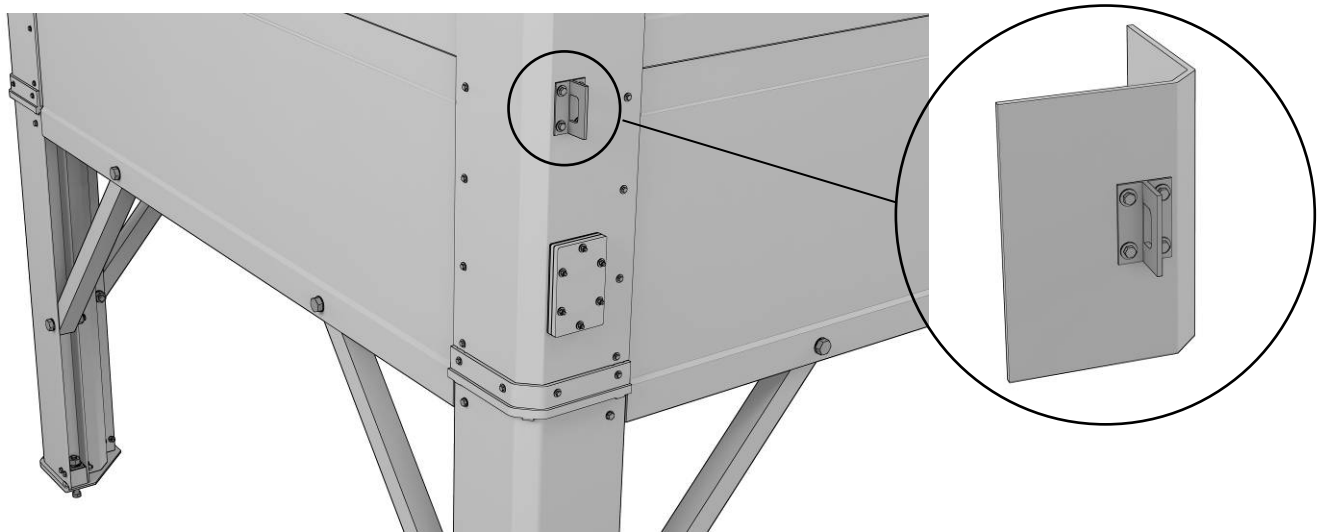
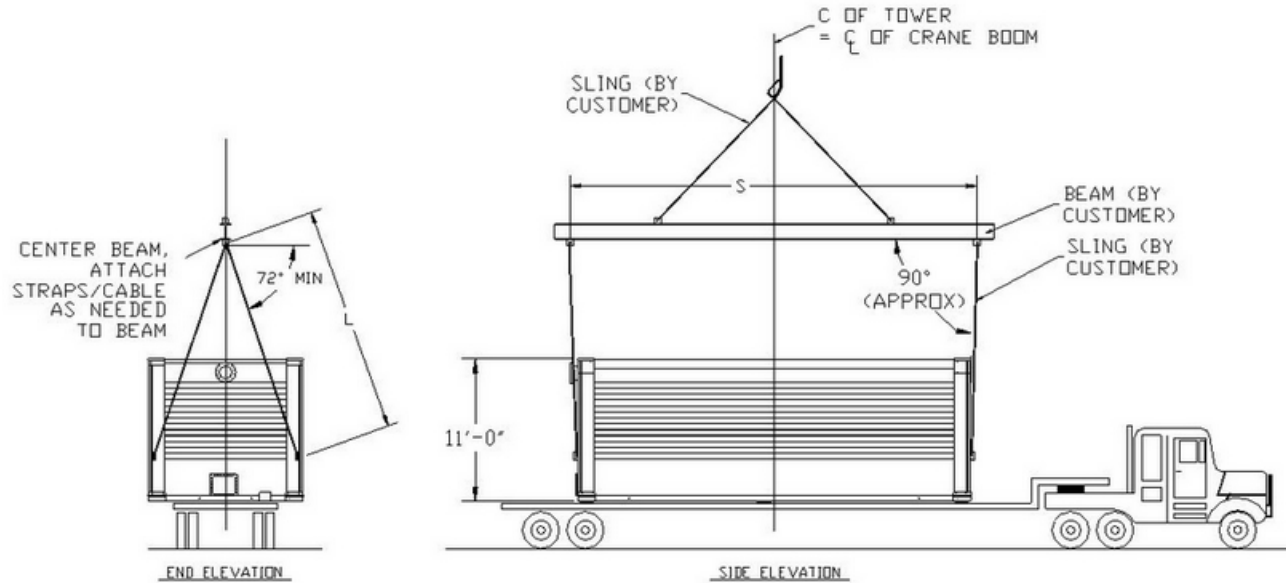

Figure 32 – Lifting Bracket
Figure 34 – Tower Lifting Procedure
3. Inspect the lifting bracket attachment for cracks or loose hardware. Refer to Figure 32.
4. Prepare and position lifting item such as clevis, lifting cables, spreader beam, guide rope and/or any other incidental items needed for a complete and safe lifting operation. Refer to Figure 34 and Table 9 for appropriate lifting cable length and the spreader beam length. Spreader bar must run the full length of the tower as shown in Figure 32 and not the short side of the tower. Recommended cable and beam lengths are designed to minimize side loading of tower walls. Position crane at the center of the tower, misaligned lifting will damage the tower shell and/or its water tightness.